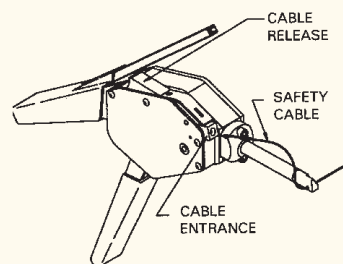
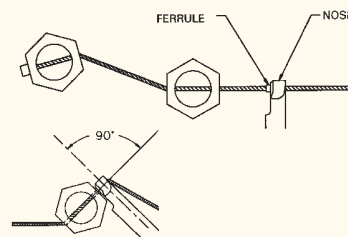

FIGURE 15: Pre-Set Tension Safe-T-Cable® Tool
FIGURE 16: Position of Safe-T-Cable® Tool
2.1.6. Insert the free end of the cable through the tool nose (Figure 15) and slide the tool along the cable to the fastener being secured (Figure 16).
It is important on this final stroke to hold the tool as steady and perpendicular to the cable as possible while completing a full stroke. This assures consistent tensioning of the cable (Figure 16).